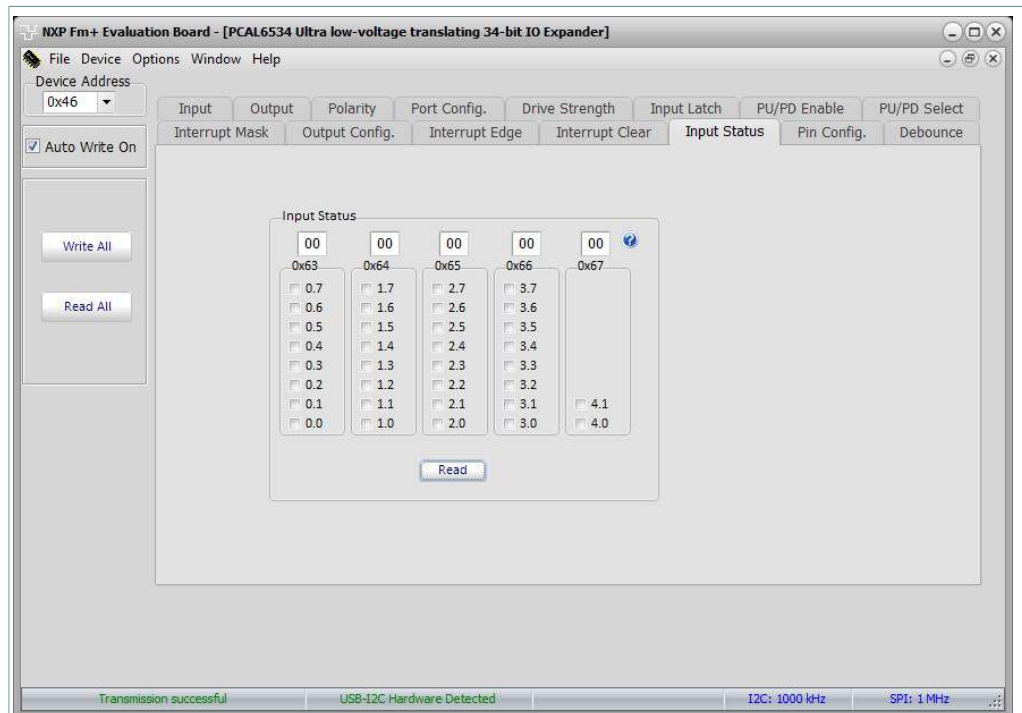

Figure 22. Device configuration screen for registers 63-67 hex
14. Input status registers read are shown in Figure 22.